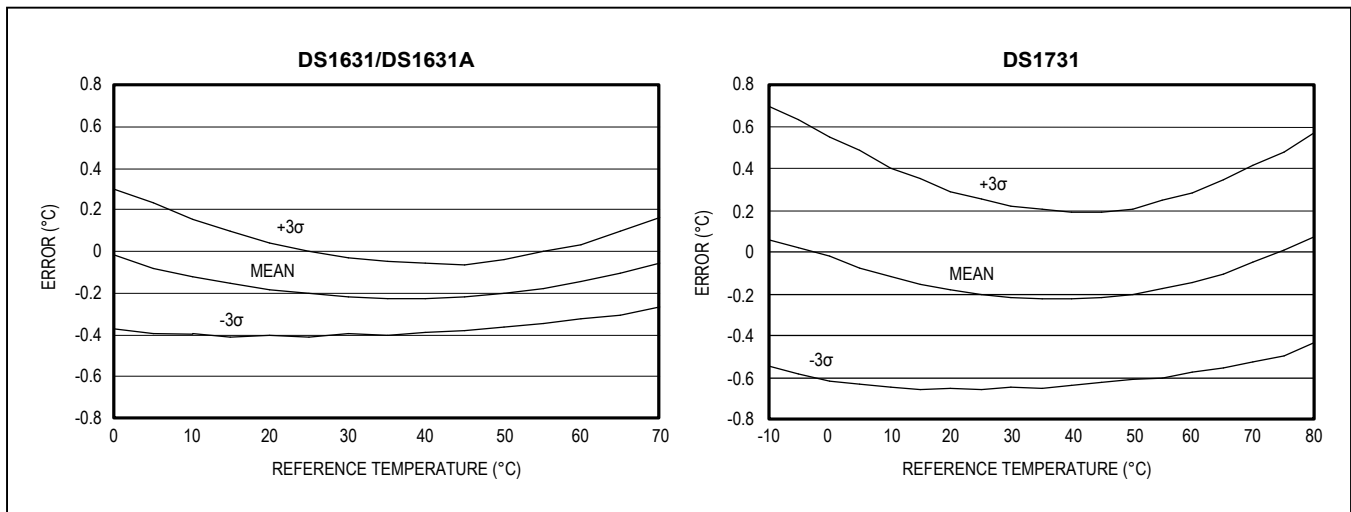

Figure 2. Typical Operating Curves
**Note 1:** All voltages are referenced to GND.**Note 2:** See Figure 2 for Typical Operating Curves.**Note 3:** Specified with TOUT pin open; A0, A1, A2 = 0V or VDD; and fSCL ≥ 2Hz.**Note 4:** Specified with temperature conversions stopped; TOUT pin open; SDA = VDD; SCL = VDD; and A0, A1, A2 = 0V or VDD.**Note 5:** See Timing Diagram in Figure 3. All timing is referenced to 0.9 × VDD and 0.1 × VDD.**Note 6:** After this period the first clock pulse is generated.**Note 7:** For example, if CB = 300pF, then tR[min] = tF[min] = 50ns.